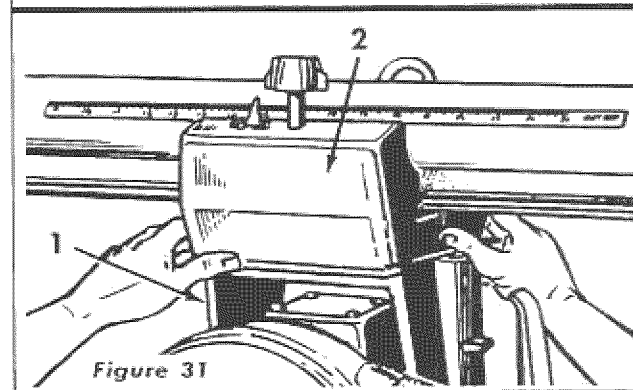

Figure 31
1. Remove left-hand carriage cover (2, figure 31).
6. Install carriage cover (2, figure 31).